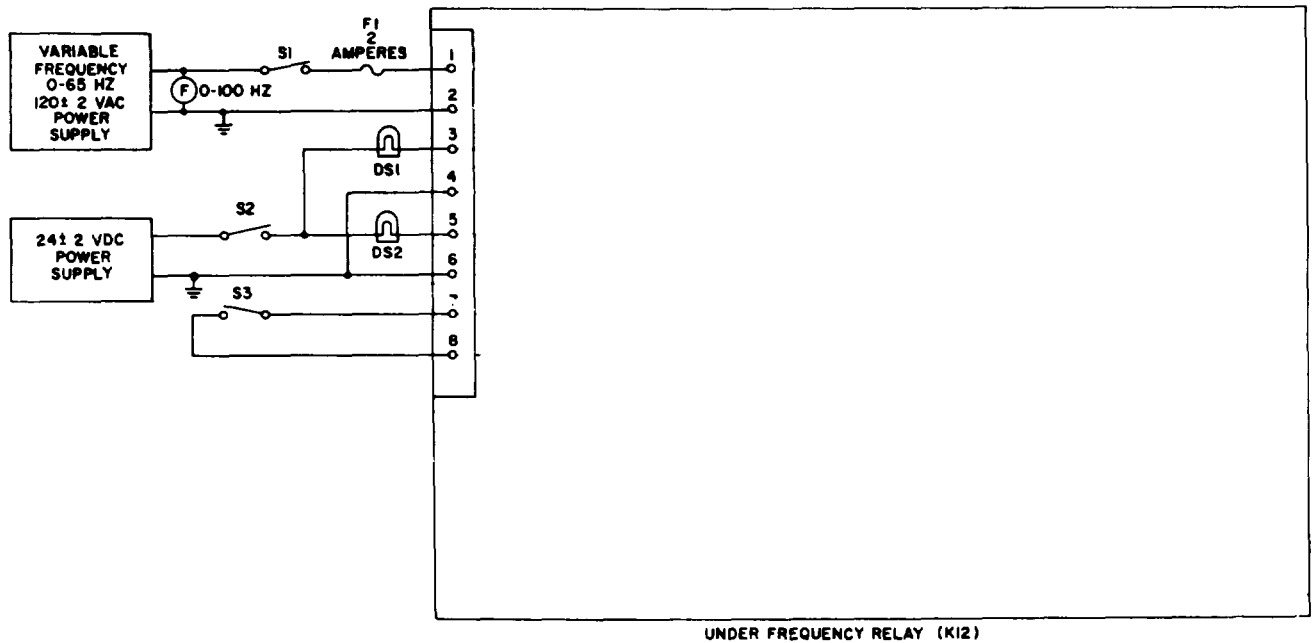

Figure 6-50. 50/60 Hertz under frequency relay (K12), test setup
a. Connect the under frequency relay to the test equipment as illustrated in figure 6-50.